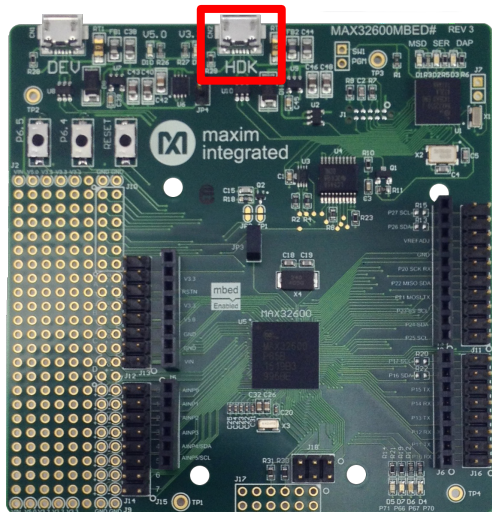

Figure 9. Connecting the MAX32600MBED to the computer through the HDK USB port.
4. Connect the MAX32600MBED to the computer through the HDK USB port for programming (**Figure 9**).